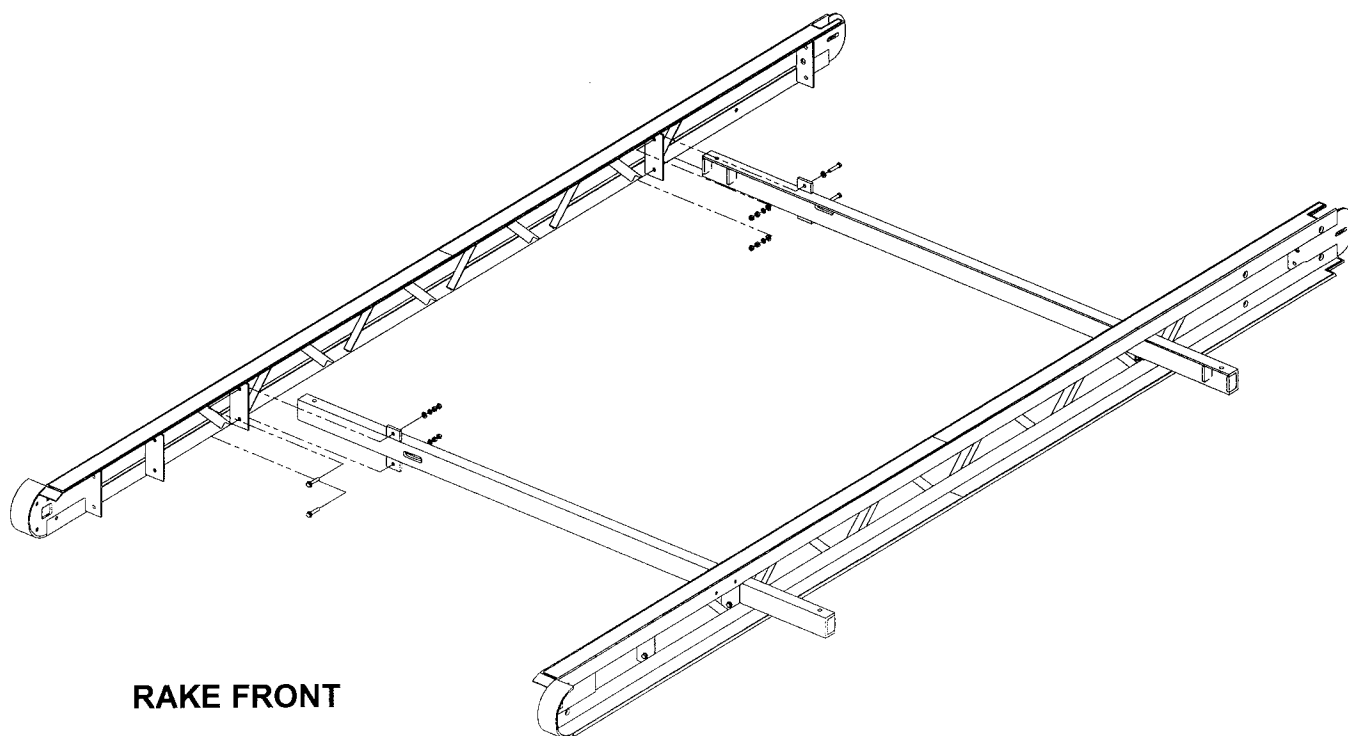

Figure 3-18 Lifting Beam Installation
Place a rake guide angle at each of the four (4) lifting points refer to Figure 3-18. There will be two left-hand and two right-hand rake guides. One of each will go on both sides. The rake guides will be located directly below the pulley mounting bracket located on the upper side bin structure. Tabs are provided on the bin structure to attach the rake guides to the structure. The rake guides at the front will be mounted with the flange on the side closest to the bin door (front) of the rake. The rear guides will be opposite that orientation with the flange on the side closest to the rear wall of the rake. The rake guide angles form a box and prevents the rake from getting out of position when operating.
Install the lifting beams using the lifting beam hardware. Do not tighten the bolts. Refer to Figure 3-18. Use a framing square to ensure that the girders are perpendicular to the channels and lifting beams.